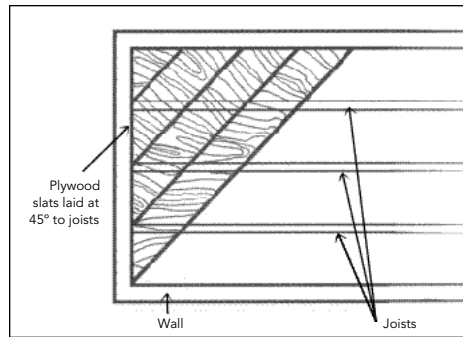

Fig. 2B
- A 1" x 4" or 1" x 6" subfloor may be used, however, the boards must be dressed and dry and installed at 45° angles to the floor joists. They should be secured with the appropriate nails and by face nailing with 2 nails at each joist. (See Fig. 2B.)